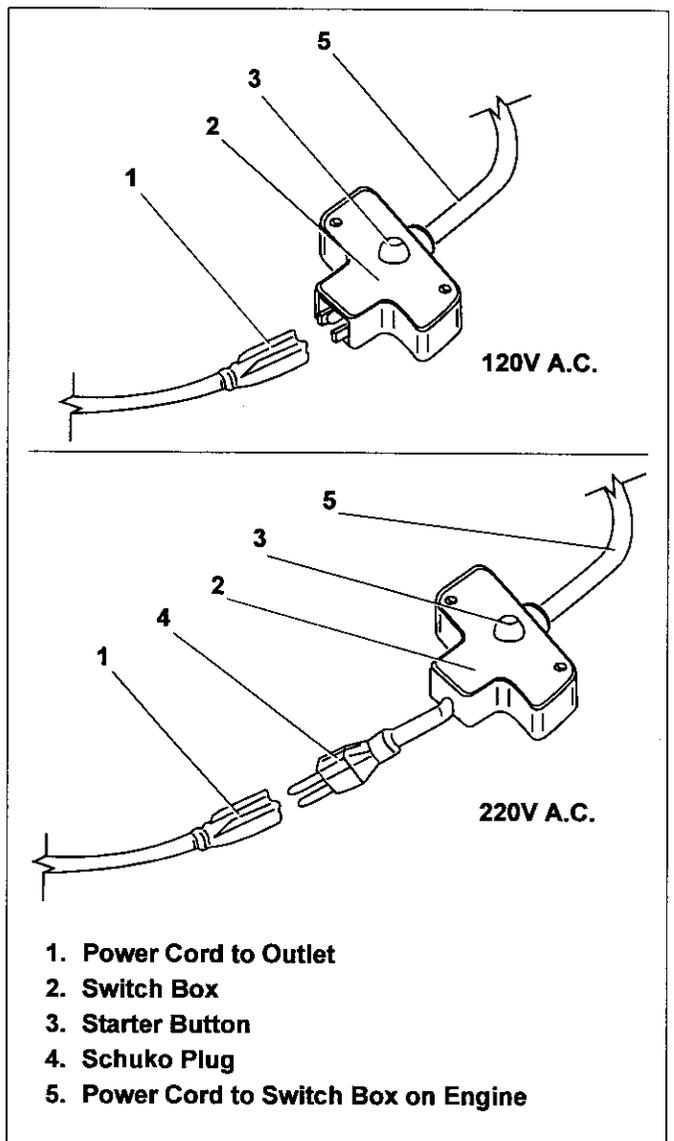

Figure 15. Electrical Applications
When connecting power cord, always connect power cord to switch box on engine first; then into outlet. See Figure 15.
1. Connect power cord to switch box on engine. See Figure 15.
When disconnecting power cord, always disconnect power cord from outlet first; then disconnect switch box on engine. See Figure 15.
4. Disconnect power cord from outlet. See Figure 15.
5. Disconnect switch box on engine. See Figure 15.